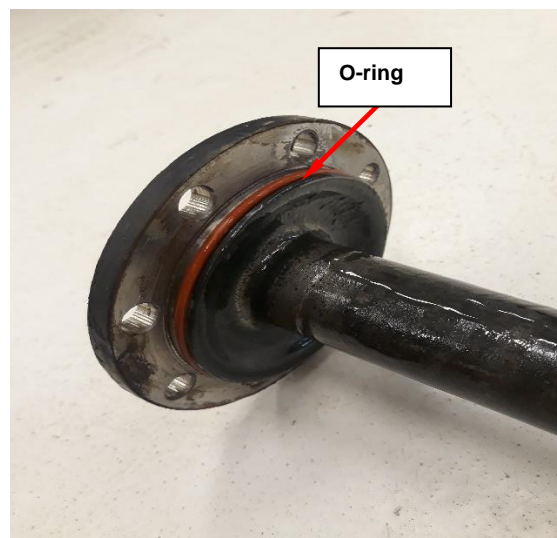

Figure 17 – Axle Shaft
32. Install a **NEW** Axle Shaft O-ring or gasket (Figure 17).